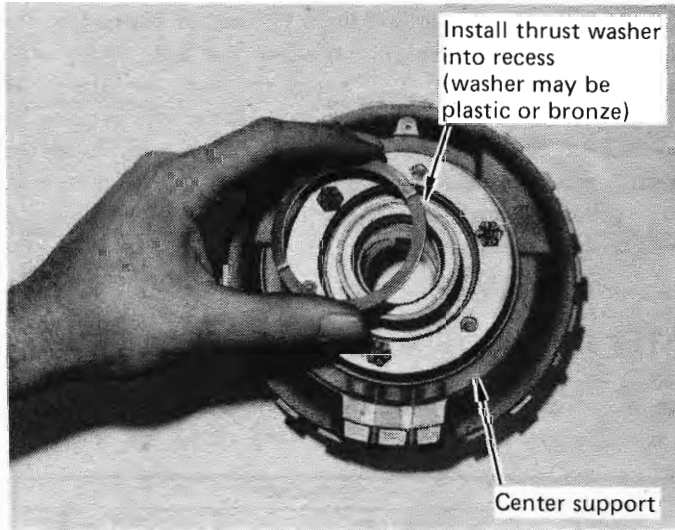

FIGURE 41
STEP 13. Turn the center support over and install the large diameter thrust washer in position inside the recess of the center support. (See Fig. 41) Hold the washer in place with grease. Lubricate the sun gear shaft. Install the center support on the geartrain assembly. Rotate and push down on the center support to engage the low-reaction overrunning clutch. When the center support is fully seated the low reaction carrier will have approximately 1/8" of end play. With the reaction carrier held, the center support must rotate **counter-clockwise** only looking down on the center support. Clockwise rotation indicates the overrunning clutch is in backwards.